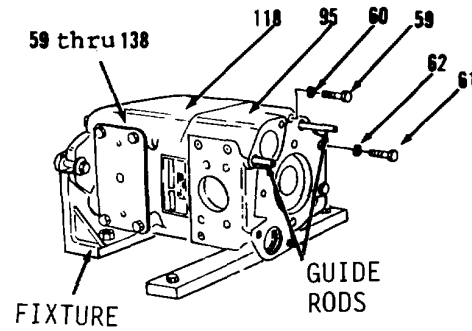
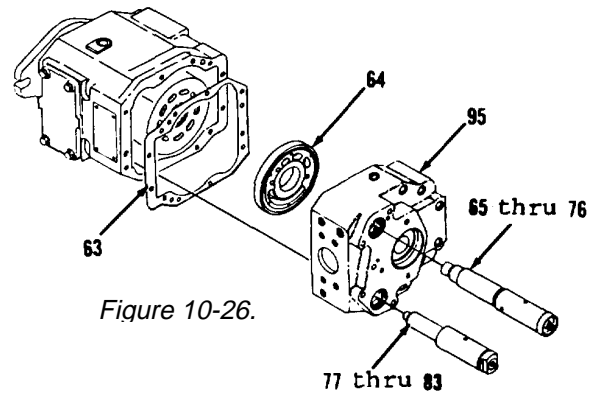

Figure 10-25.
Figure 10-26.
21. Install items 59 thru 138 as an assembly (Figure 10-25) in fixture.
22. Install two guide rods into head (95) and body (118).
23. Remove three bolts (59), lock-washers (60), two bolts (61) and lockwashers (62).
24. Separate head (95) from body (118) by sliding head (95) over guide rods.
26. Remove and discard gasket (63, Figure 10-26). Remove all gasket material from mounting surfaces.
27. Remove plate (64) from head (95).